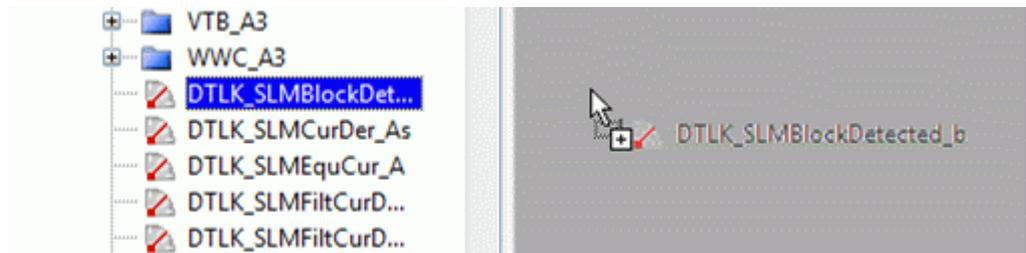

Figure 6-1: Dragging measurement and calibration parameters onto display page
5. Select individual measurement and calibration parameters, use drag & drop to move them onto the empty display page (see Figure 6-1), and choose suitable measurement and calibration windows.